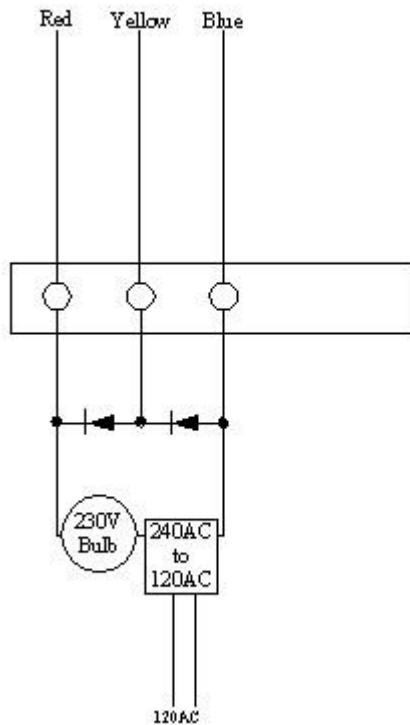

Fig. 1
- 6.1.1** Use the 44D357965G01 test strip with 2 diodes and 5 wires attached and connect the transformer and bulb load as shown in Fig. 1 but do not apply power yet. Connect a 125VDC supply to the UUT as follows – positive to TB3-D and negative to TB3-E but do not power it yet.